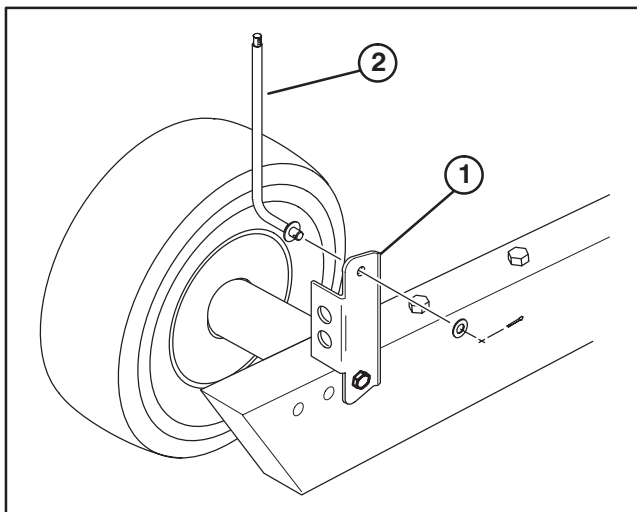

Figure 1
1. Insert a transport support lever into top hole of each lock-up bracket, positioning levers as shown in figure 1. Secure each lever to bracket with a flat washer and cotter pin.